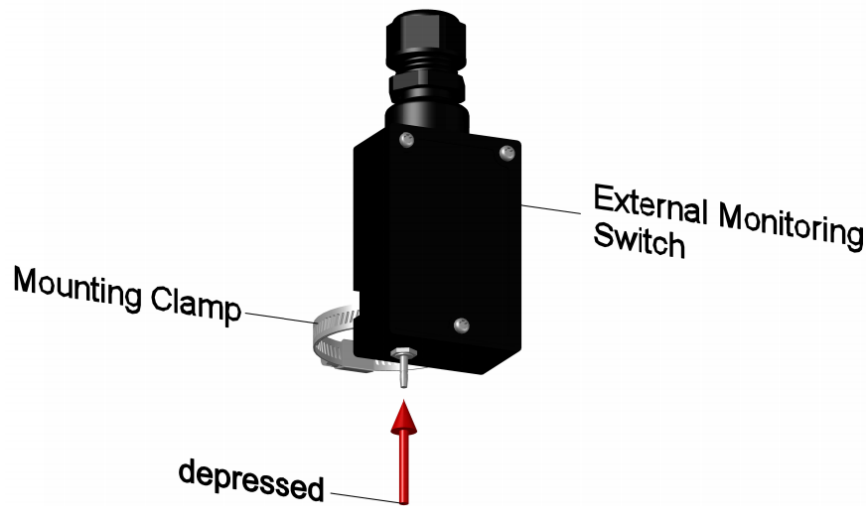

Figure 50: External Monitoring Switch Pin Depressed
- d. Prior to installation of electrical actuator, ensure the unit is **reset in the non-fire position**. Ensure all the source of electric from fire alarm control panel to the electrical actuator has been disconnected to prevent the accidently activation of electrical actuator. The electrical actuator is hand tight only onto the cylinder valve. (See Figure 49 (a) & 49 (b)) Once the electrical actuator is fitted, the external monitoring switch button will fully depressed. (See Figure 50)